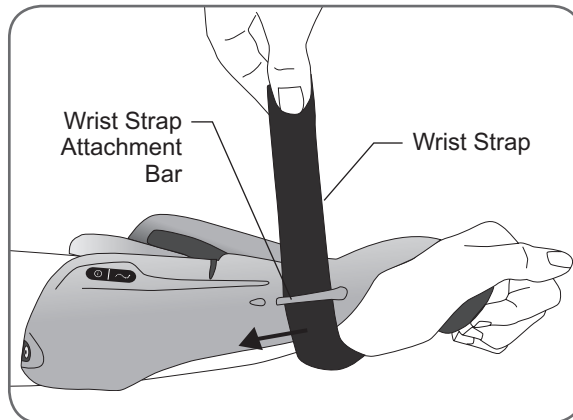

Figure 10-1: Unfastening the Wrist Strap
2. Carefully unfasten the Wrist Strap and slide it away from the Wrist Strap Attachment Bar. See Figure 10-1.